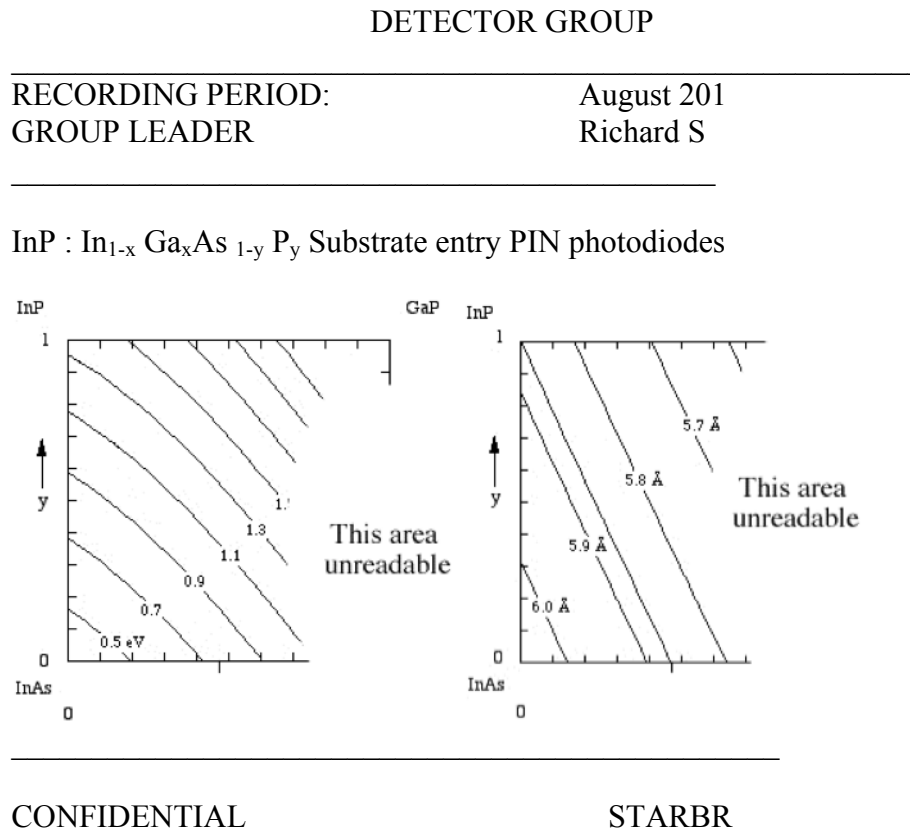

Figure 4.1
4. An unfortunate fire has occurred in the clean room at STARBRITE OPTO. A partially burned page has been recovered from a logbook and is reproduced as Figure 4.1: